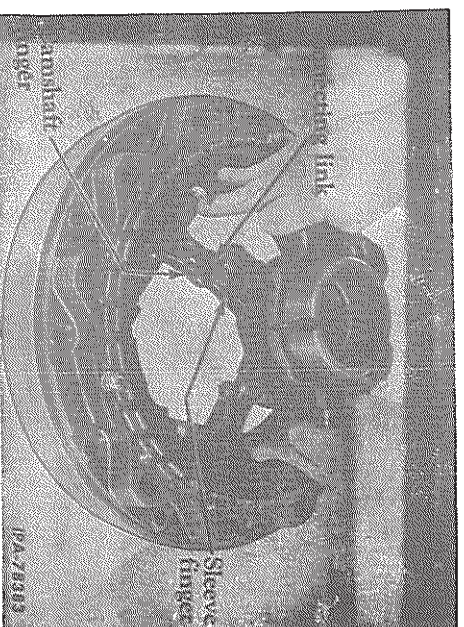

FIG. 24 — Positioning the Camshafts
8. Install the bearing carrier and camshaft assembly on the pressure plate. When the camshafts are in their saddles on the pressure plate, the fingers of the camshaft sleeve should be below the fingers of the release sleeve and the connecting links in a vertical position (Fig. 24).